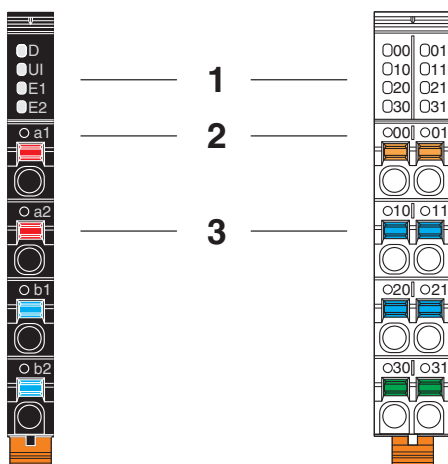

Figure 5-24 Marking of terminal points and LEDs on the connectors
- Indication elements**            Diagnostic and status indicators are marked with the function, e.g., D, E, UI, 00, 01, ... (1 in Figure 5-24).
- Terminal points**                    The terminal points are consecutively numbered, e.g., a1, b1, 00, 01, ... (2 in Figure 5-24).
The associated colored spring lever indicates the function (signal, potential) (3 in Figure 5-24).